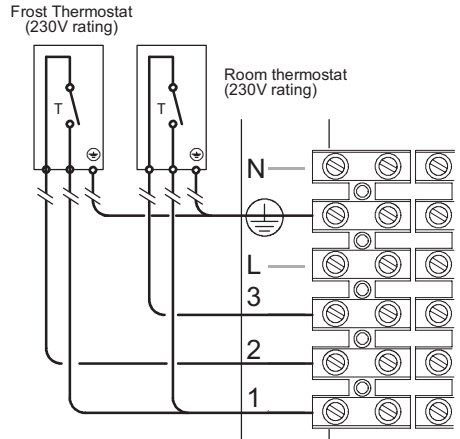
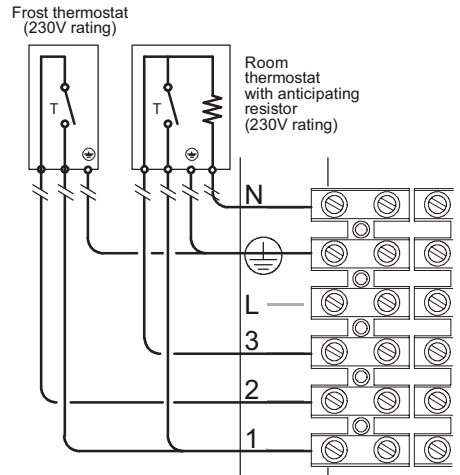

Fig. 6.25
Fig. 6.26
- Connect the frost thermostat between terminals 1 and 2 as shown in Fig. 6.25 or Fig. 6.26.